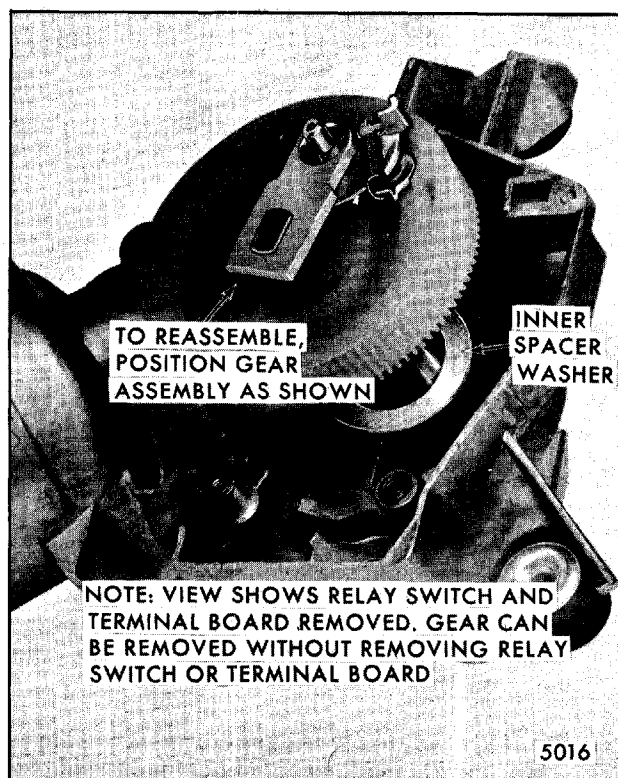

Fig. 2-47-Removing Gear
4. Slide gear assembly out of housing (Fig. 2-47).
6. Assemble inner spacer washer over gear shaft and assemble gear mechanism in housing so that it is positioned with respect to the housing in the approximate location shown in Figure 2-47.